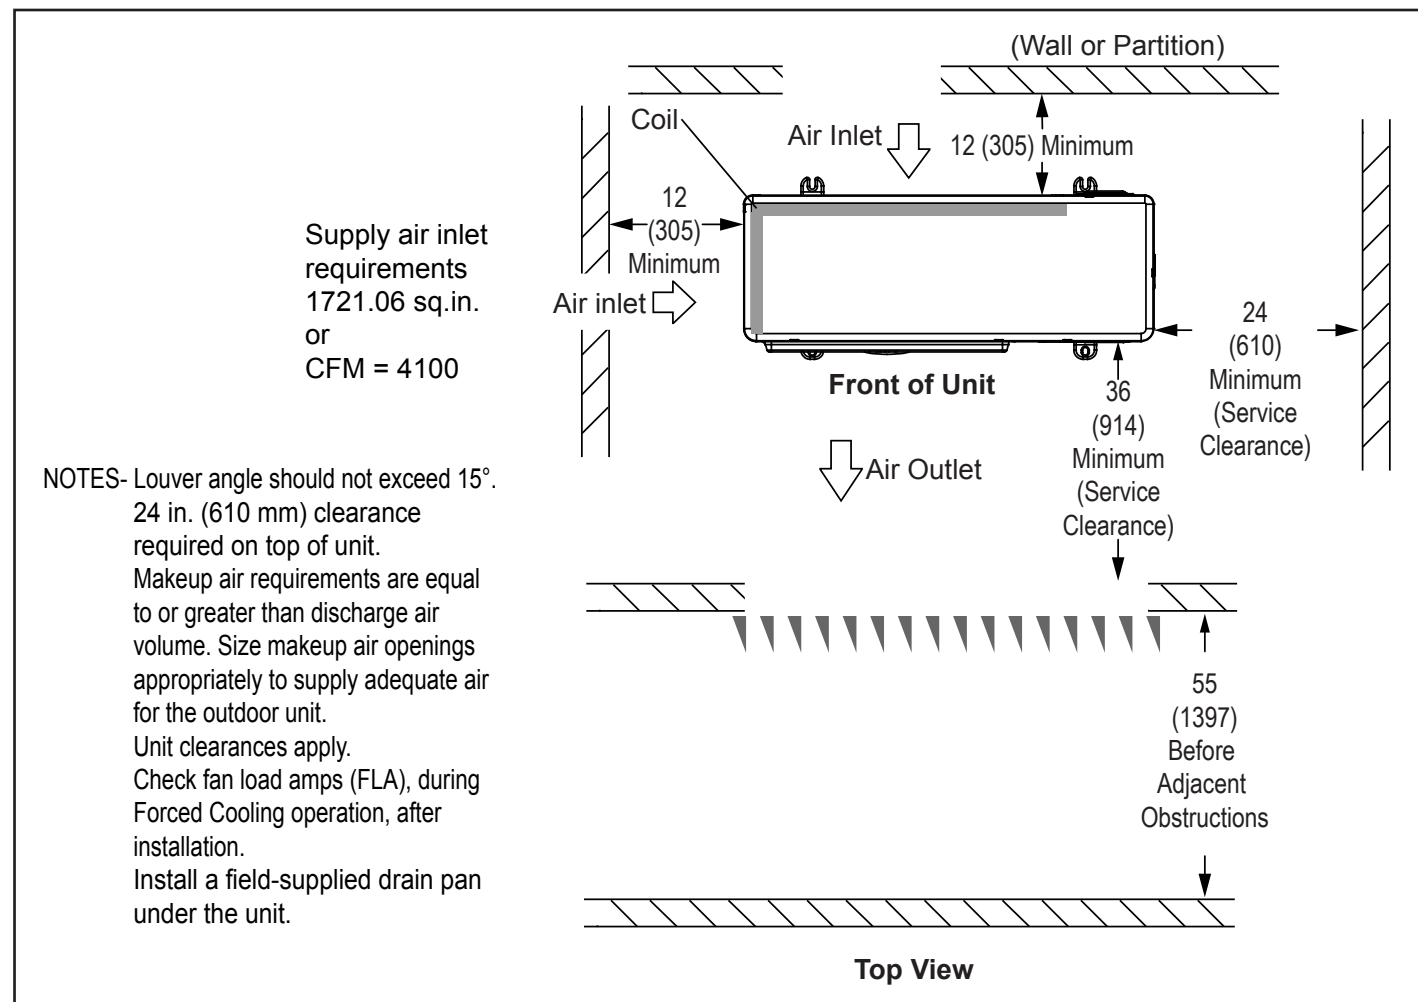

Figure 12. Inside Installation Clearances
- Refer to Figure 12 for critical clearances.